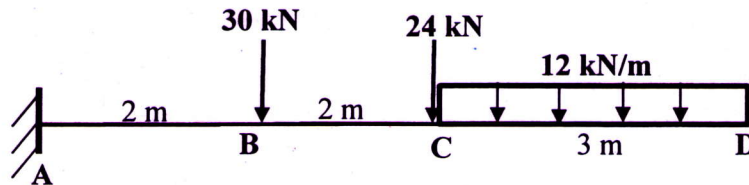

Figure 2
- 12 **Figure 2** shows a loaded cantilever beam of span 7 m. Compute the deflections at B, C & D and slope at D using moment area method.  $E = 200 \text{ GPa}$  and  $I = 120 \cdot 10^6 \text{ mm}^4$ . 14